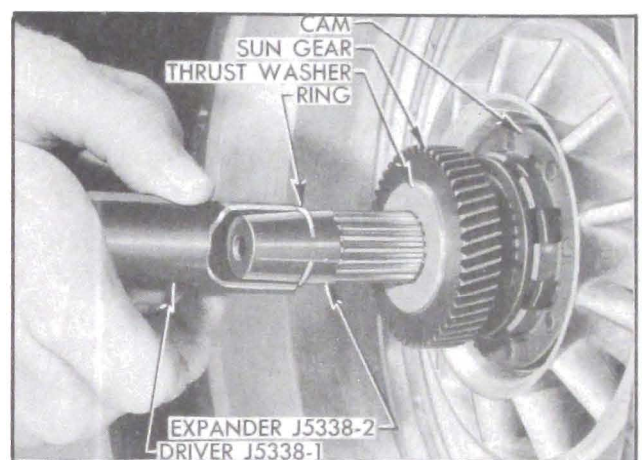

Figure 4-30—Installing Turbine Retaining Ring
4. Place the tapered Expander J 5338-2 on end of input shaft. Use Driver J 5338-1 to push the second turbine retaining ring over the expander and shaft until it seats in groove in shaft. See figure 4-30.